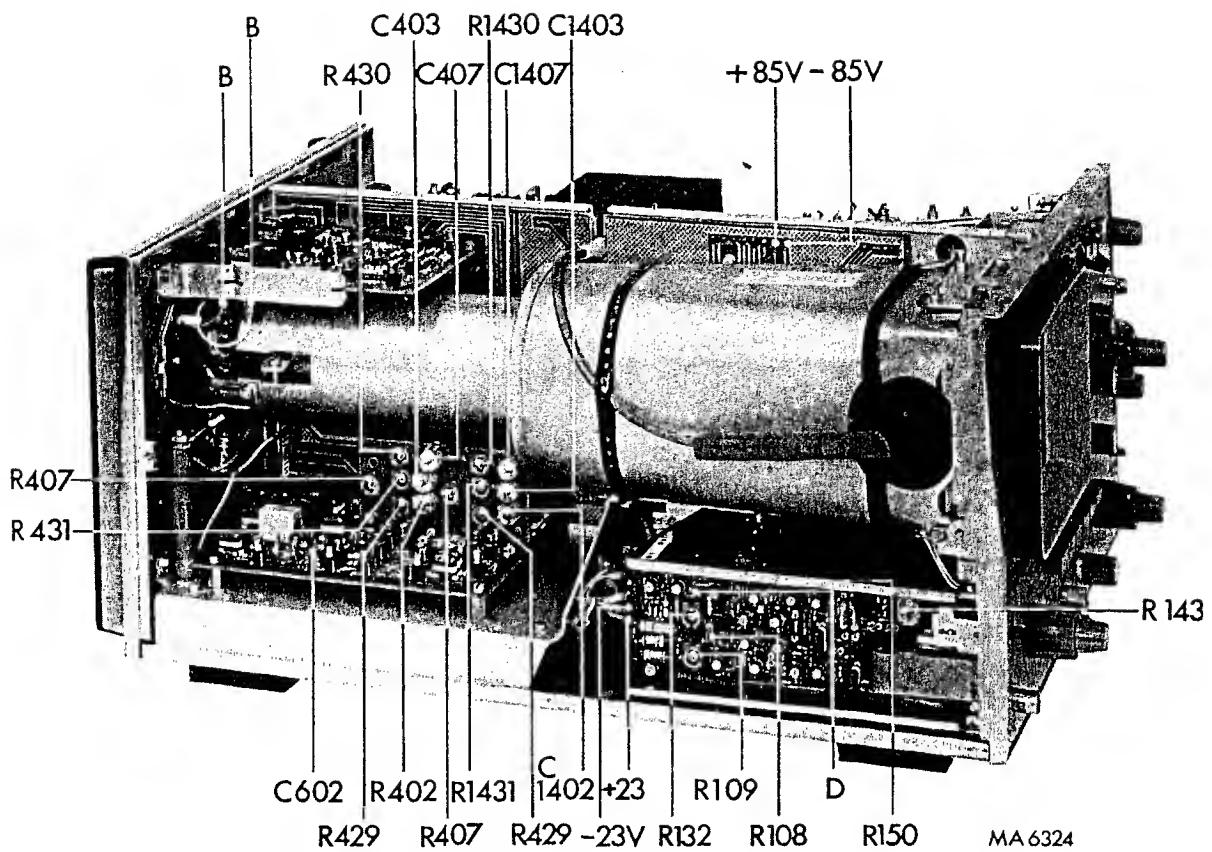

Fig. 49. Checking and adjusting; left-hand side view
- Check that the +23 V (Fig. 49) voltage is accurate within 0.5 % at nominal mains voltage. If necessary readjust R1114 (Fig. 50).
- Check the presence of the voltages –23 V, +85 V, –85 V, –1600 V and +8500 V, tolerance $\pm 10\%$ (Figs. 49 & 50).